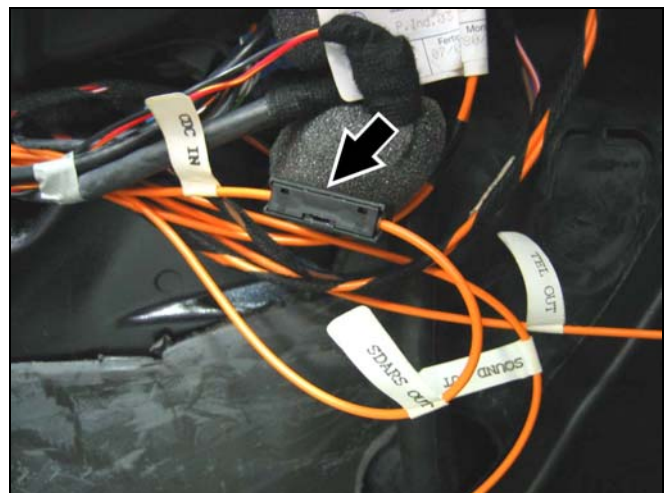

Figure 20
3. At the exposed transmission tunnel area, find the MOST couplings and configure the MOST ring (Figure 20) according to Figure 51.